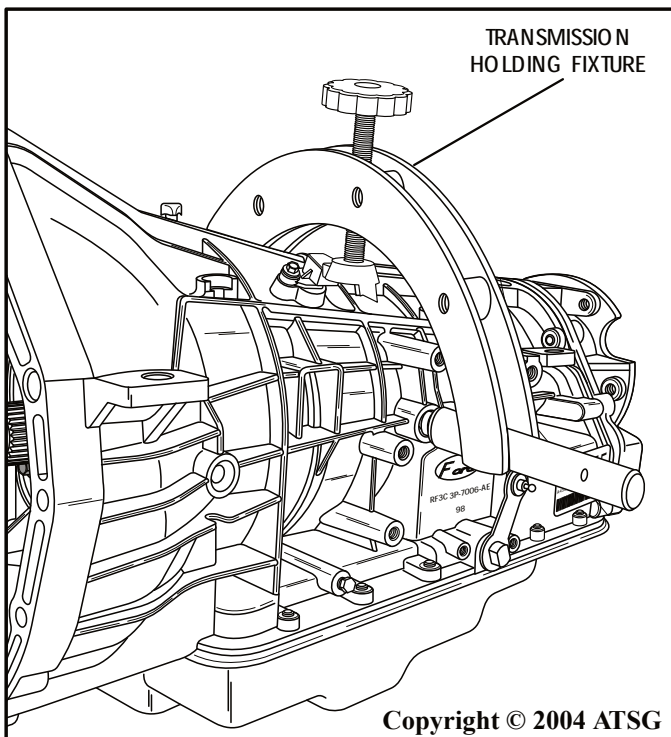

Figure 26
1. Install transmission holding fixture, as shown in Figure 26, that will allow you to rotate the transmission.